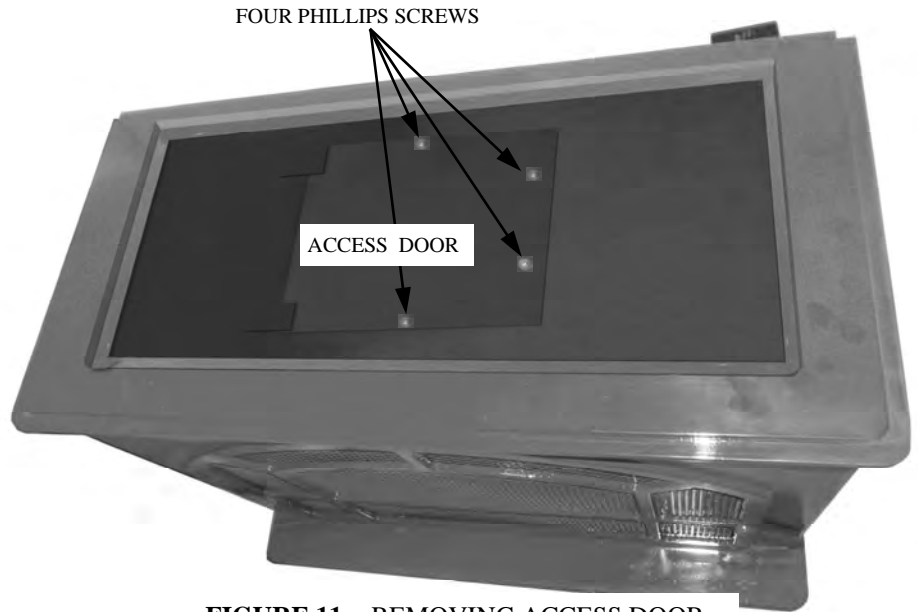

FIGURE 11 - REMOVING ACCESS DOOR
1. Remove log access door on top of unit by removing two (4) phillips screws. Set access door and screws aside. (See Figure 11).